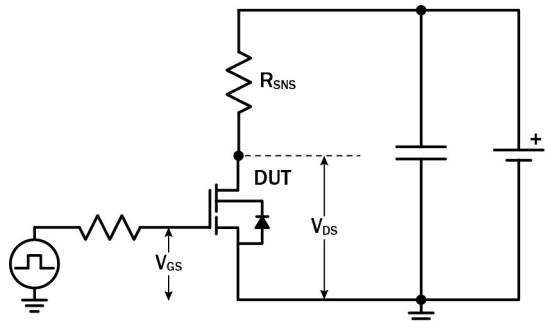

Figure 18. Dynamic $R_{DS(ON)eff}$ Test Circuit
- a. Dynamic $R_{DS(\text{on})}$ value; see Figures 18 and 19 for conditions